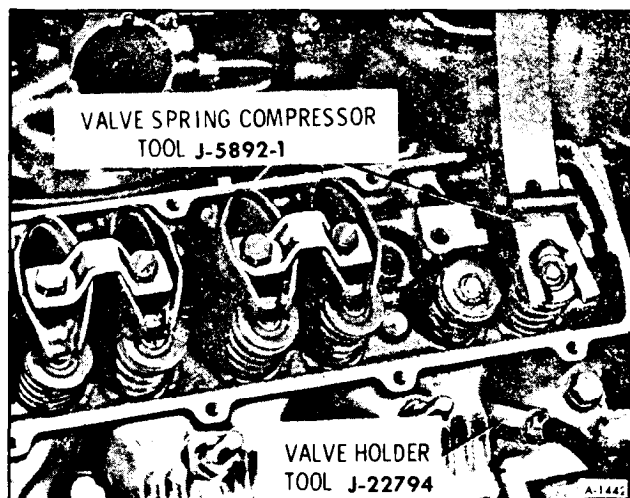

Figure 30—Removing Valve Spring
3. Remove spark plug and install Tool J-22794 into spark plug hole and attach to an air hose to hold the valve against its seat. (See figure 30).
4. Install Tool J-5892-1. See Figure 30. Compress the valve spring until valve keys are accessible, then remove keys, valve rotators and springs.